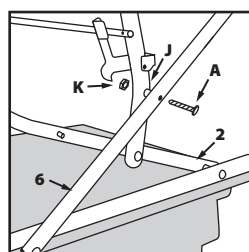

Fig. 11
- Manoeuvre component **3** and **6** so the bolt holes line up. **(Fig. 11)**.